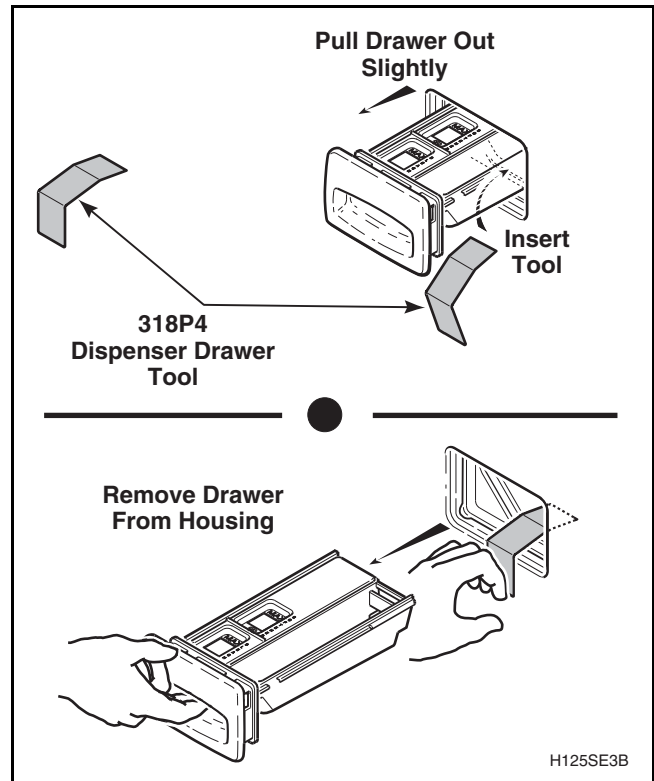

Figure 35
- (2) Using the special tool, No. 318P4, remove dispenser drawer. Refer to *Figure 35*.